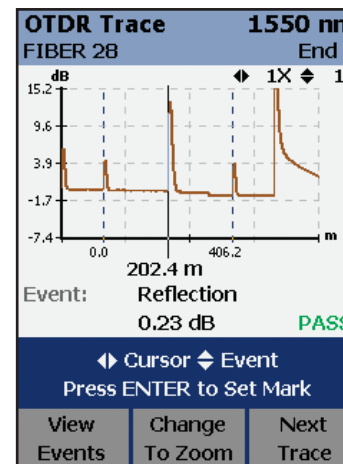
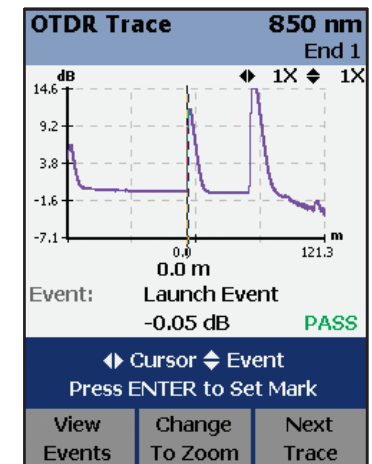

Figure 18 – Trace screenshot on the DTX Compact OTDR
Figure 19 – “Pass” trace screenshot on the DTX Compact OTDR
- Evidence that every component in a fiber optic cabling system was properly installed. See Pass result at 1550nm in figure 18 and at 850nm in figure 19